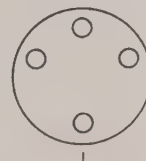

Figure 10. Klystron Tube-Pin Guide
(1) Insert the tube carefully within the center of the cavity, and press it all the way in, rotating clockwise against a noticeable resistance as the internal contact ring-fingers make engagement, until it meets a positive stop*.
(2) Then retighten the large knurled collar, using the spanner wrench.
(3) Connect the socket to the base of the klystron tube. Use care to avoid breaking or bending the tube pins as the socket can be forced on in the wrong position. (As shown in figure 10, pin No. 1 is the pin apart from the other three.)